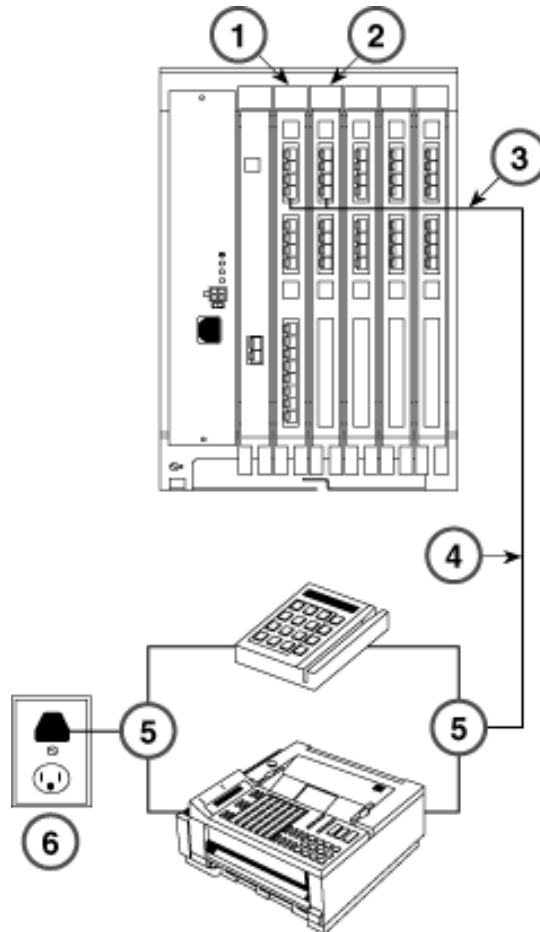

Figure 6-1. Analog Data with no External Modem through Tip/Ring Port
- Directly through a Tip/Ring extension jack on a 016 T/R module or through an extension jack that has been programmed for Tip/Ring operation on an ETR module, as shown in Figure 6-1.